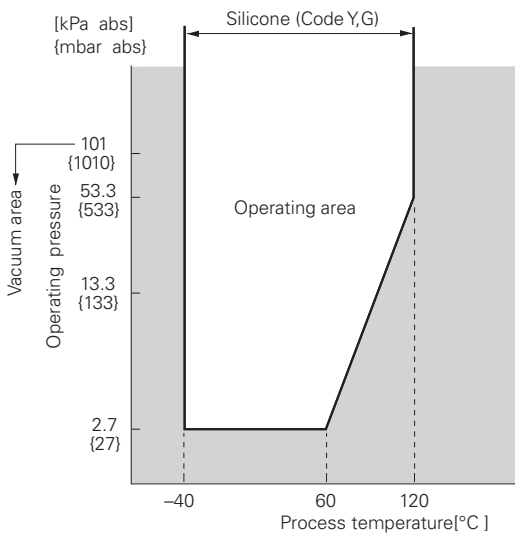

Fig. 1 Relation between process temperature and operating pressure
- Vacuum service:** Special silicone oil and filling procedure are applied. See Fig.1